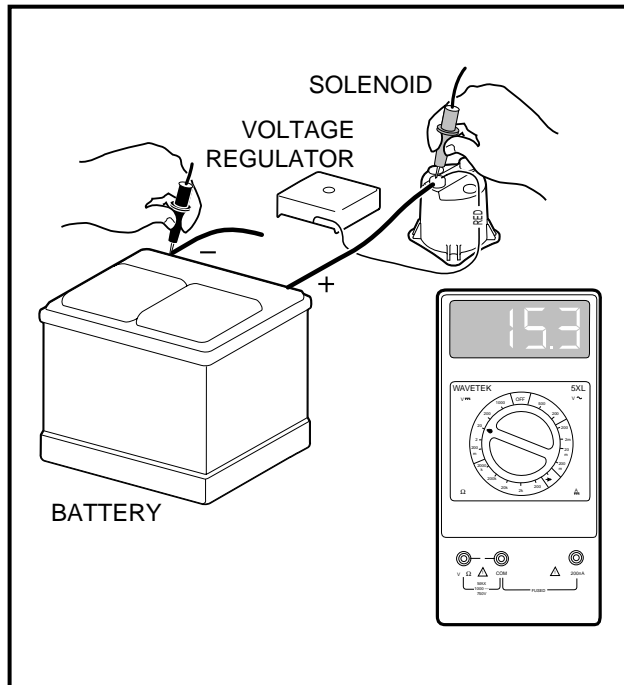

Figure 11-37 Test Voltage Regulator
5. Turn the key switch to the OFF position, killing the engine. Using a multimeter set to 20 volts DC, place the red (+) probe on the large post of the solenoid with the red wire from the voltage regulator attached. Place the black (-) probe on the negative (-) battery post (**Figure 11-37, Page 11-33**). With the Forward/Reverse handle in the NEUTRAL position and the wheels chocked, turn the key switch to the START position to start the engine. Depress the accelerator to run the engine at full governed speed. If the reading is between 14.7 and 15.3 volts, the regulator is good. If the reading is lower than 14.7 volts but rising steadily, check battery condition. **See Hydrometer Test on page 11-22.** If the reading is lower than 14.7 volts and not rising, and the starter/generator is good; or if the reading is over 15.3 volts and continues to rise, replace voltage regulator. **See Voltage Regulator Removal, Section 12, Page 12-13.**